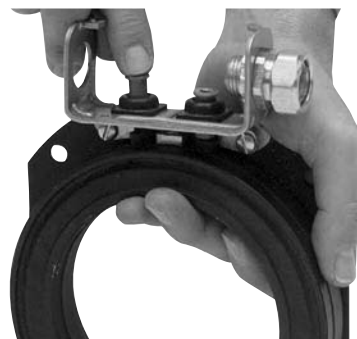

Figure 3
Step 4 Snap the two rubber grommets (6) into two square holes in the bottom of the conduit box. The grommet crowns should be in the box and the rubber flanges should be on both sides of the metal floor. (See Figure 3)
Step 5 Push two terminal spacers (7) through the grommets with the spacer flanged ends inside the conduit box. (See Figure 3)